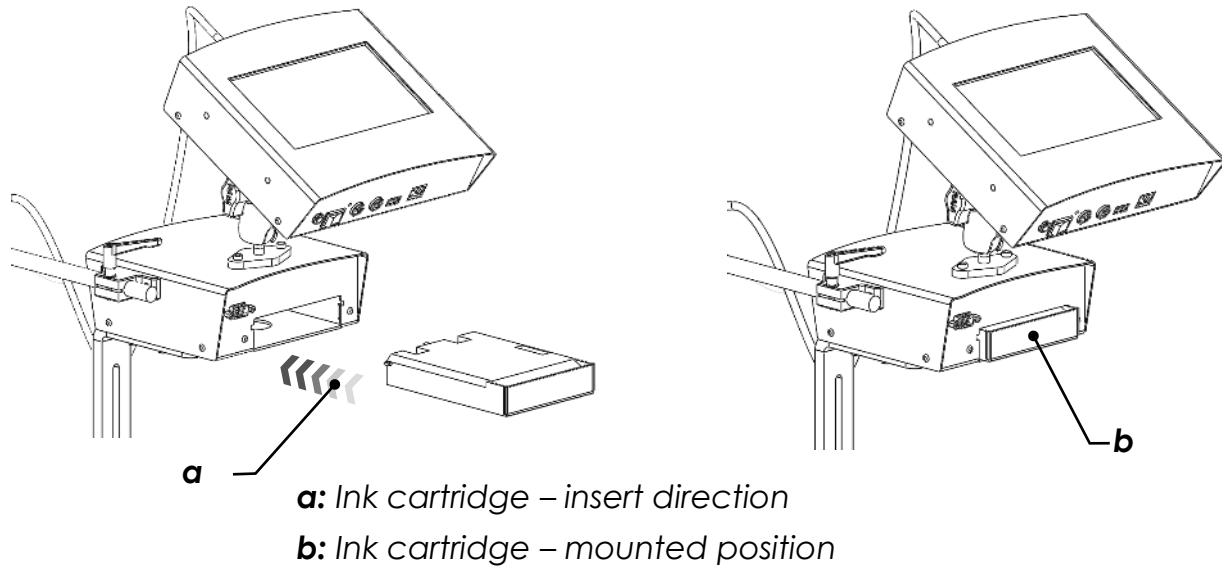

Figure 38
- Ease the cartridge into the unit until it is within the ink system and tightly gripped (see Figure 38).